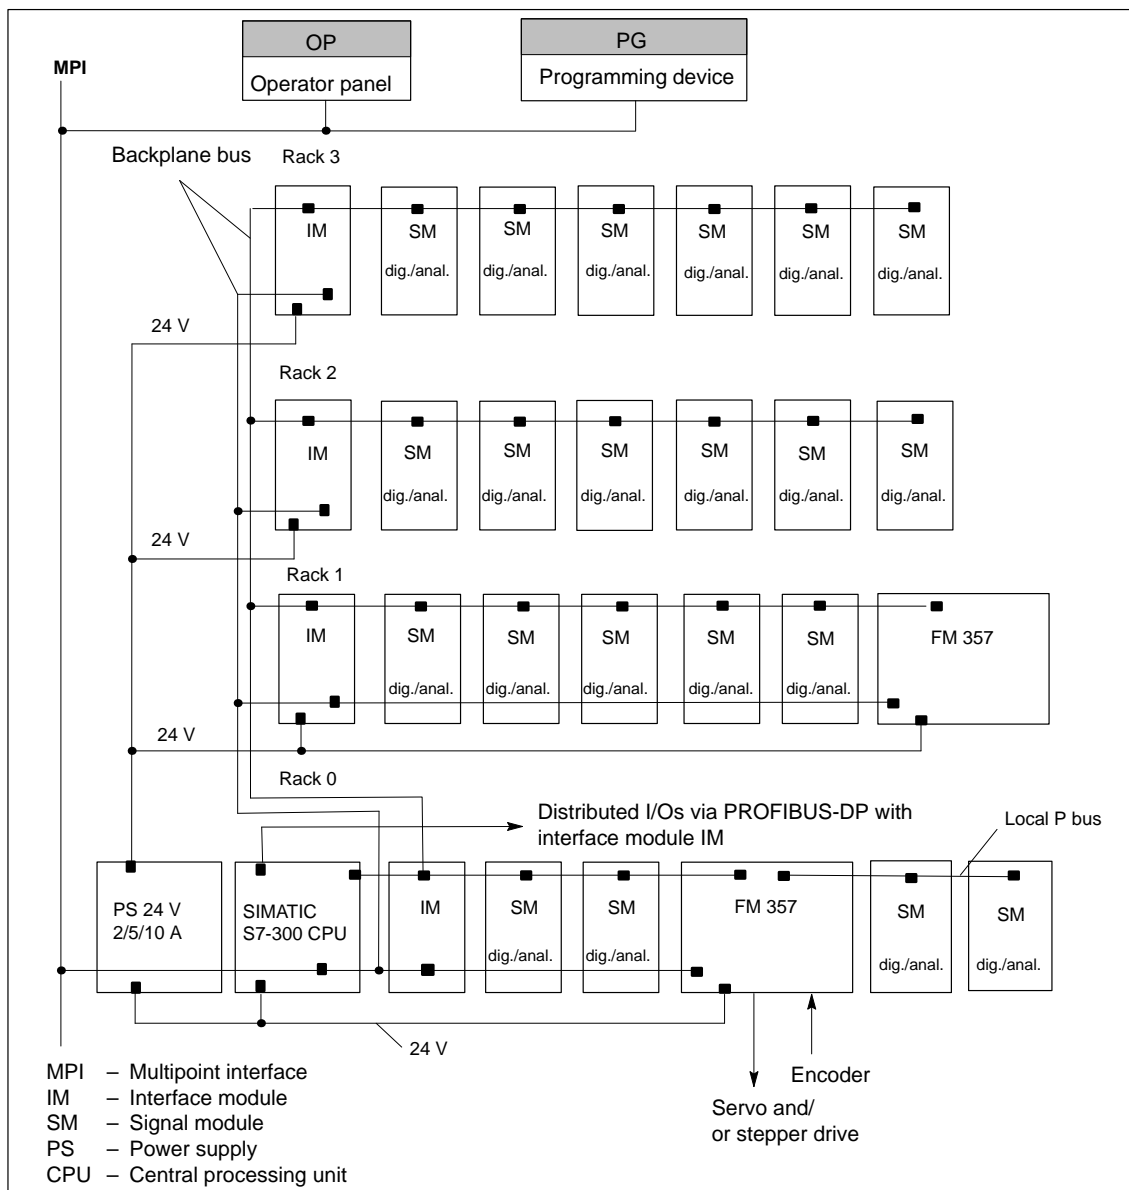

Figure 1-1 Multi-tier configuration of a SIMATIC S7-300 with FM 357 (example)
A SIMATIC S7-300 CPU may run up to four racks with as many as eight bus stations each (see Figure 1-1).
Interface module (IM)	... connects the individual tiers of an S7-300 with one another (applies to multi-tier configuration; see Figure 1-1).